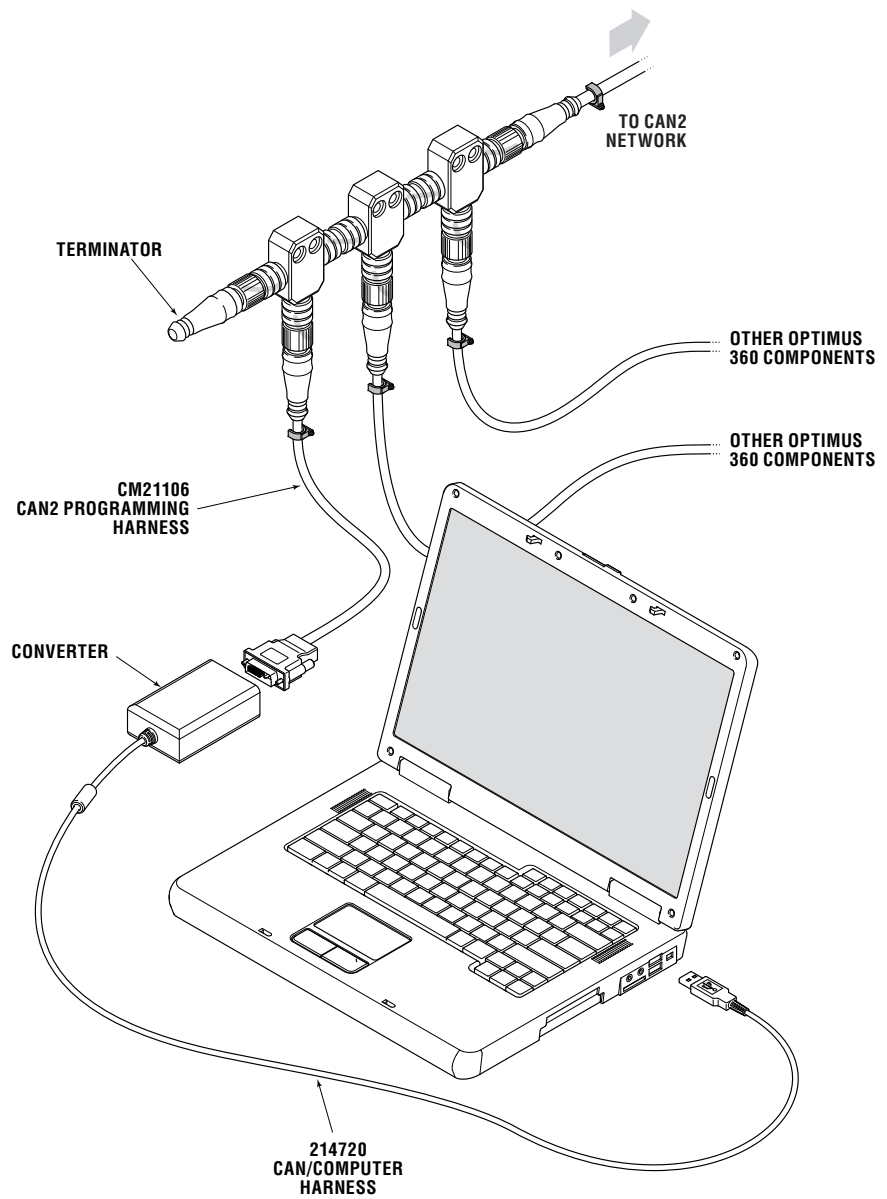

Figure B-1. Dealer Kit connection.
1. Connect the notebook computer to an unused CAN2 network port using the CAN2 programming harness as shown in Figure B-1. If necessary an additional tee may be installed but *must* be removed or capped after use. If the spare tee is left in the system, there must still be one (and only one) terminator at each end of the CAN2 bus.